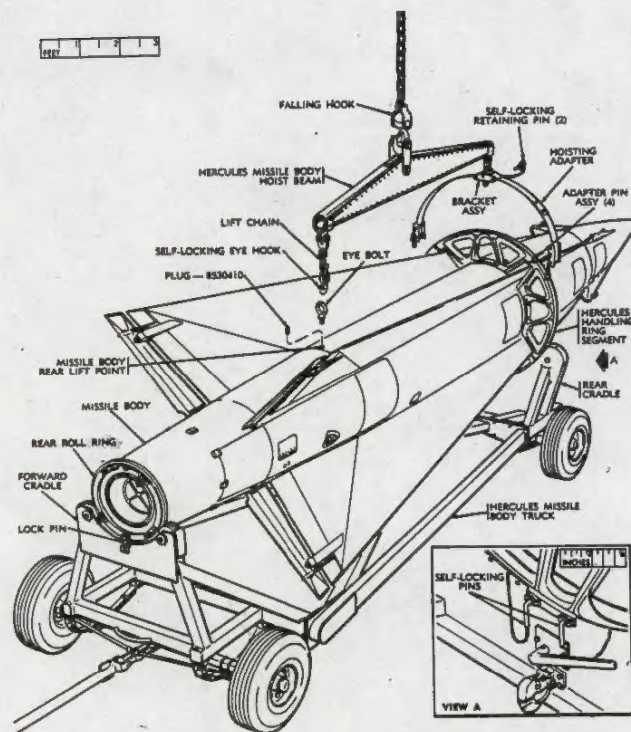

Figure 3-9. Missile body on missile body truck.
c. Supports. A handling ring and rear roll ring are used to support the assembled missile body on the missile body truck (fig 3-9). The handling ring, which consists of four segments, and the rear roll ring are attached to the rear body section when it is removed from its container. The rings rest on rollers on the forward and rear cradles of the missile body truck, thereby permitting the missile body to be rotated.
- (7) Attach the rear body section hoist beam to the rear body section and remove it from the container.
- (8) Attach the handling ring segments and rear roll ring to the rear body section and position the rear body section on the missile body truck (fig 3-9).